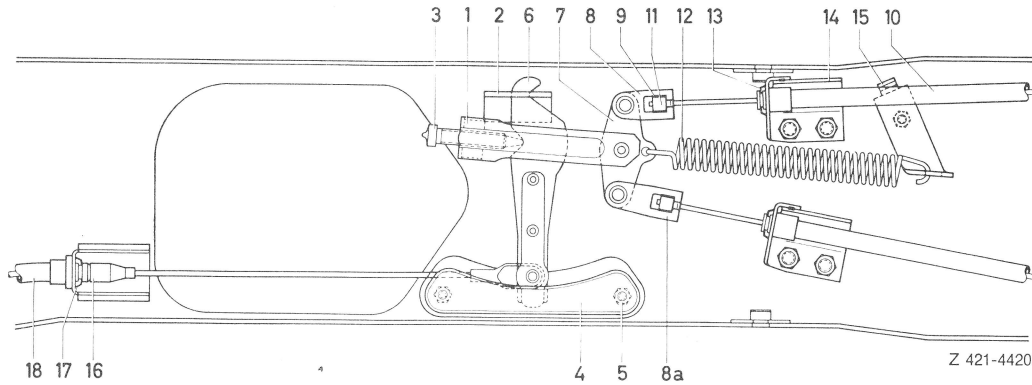

Fig. 5
**8** Disconnect intermediate lever (6) on bearing of frame floor (2) and remove from adjusting bracket (1) (Fig. 5).
**10** Pull holder (14), compensating lever (7) with cable control plates (8 and 8a) and intermediate lever (6) out of tunnel by means of brake cable controls (10) (Fig. 5).
**11** Remove spring clamp and disconnect cable controls (10) from cable control plate (8 or 8a) and holder (14) (Fig. 5).
**12** During re-installation, make sure that hose piece (9) on adapter (11) is not torn, so that a safe grip of brake cable control (10) in cable control plate (8 and 8a) is assured (Fig. 5).
**Note:** Seen in driving direction, the longer cable control plate (8a) is installed at left on compensating lever (7), and the shorter cable control plate (8) at the right. The recess for the adapter on brake cable control should face upwards.